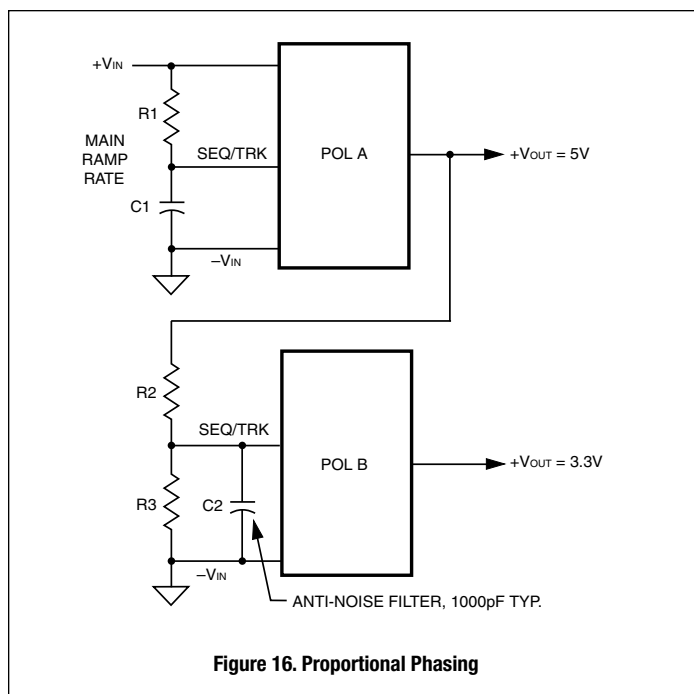

Figure 16. Proportional Phasing
Figure 16 shows both a RC ramp on Master POL A and a proportional tracking divider (R2 and R3) on POL B. We have also added an optional very small noise filter cap at C2. Figure 16's circuit corresponds roughly to Figure 11's timing for power up.
- [7] The Sequence is a sensitive input into the feedback control loop of the converter. Avoid noise and long leads on this input. Keep all wiring very short. Use shielding if necessary. Consider adding a small parallel ceramic capacitor across the Sequence/Track input (see Figure 16) to block any external high frequency noise.